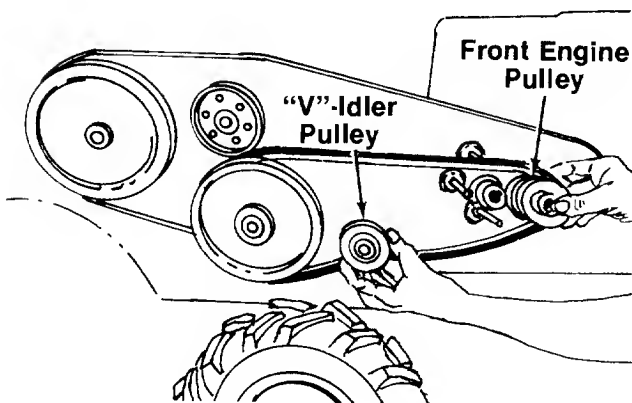

FIGURE 26.
5. Slide the front engine pulley and "V"-idler pulley out as shown in figure 26.